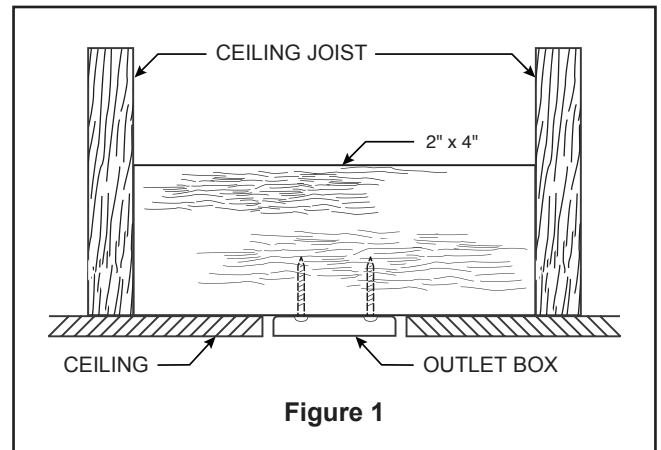
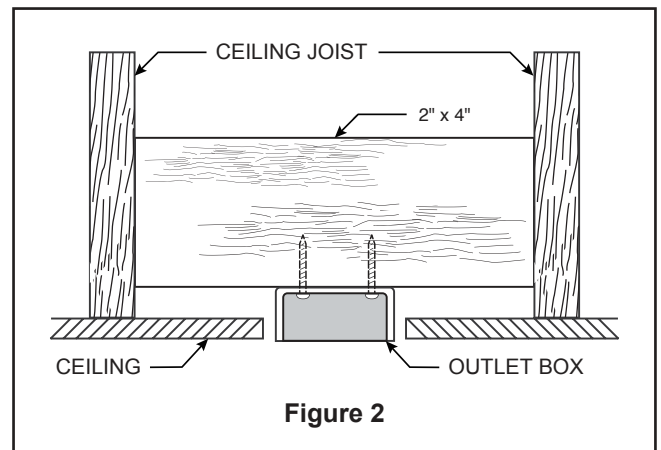
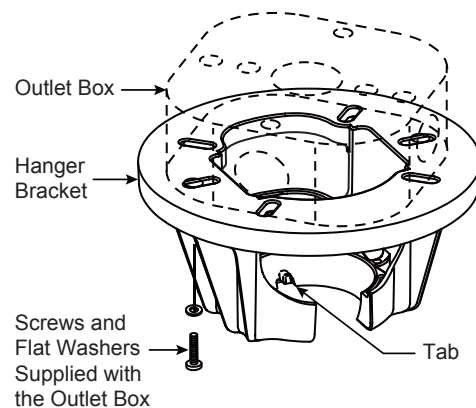
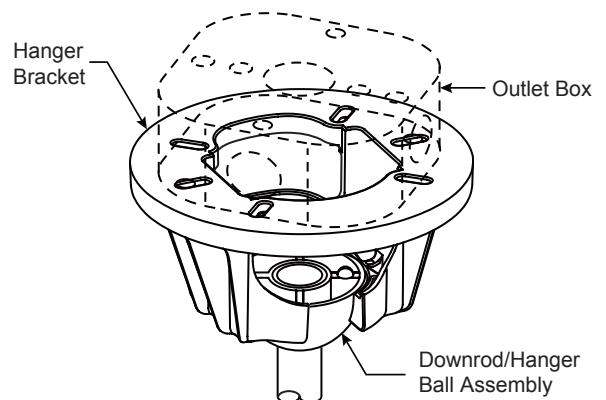

Figure 1
Figure 2
Figure 3
Figure 4
Your new ceiling fan will require a grounded electrical supply line of 120 volts AC, 60 HZ, 15 Amp Circuit. Electrical code requires use of a fan-rated outlet box to support the extra weight and motion associated with a ceiling fan. A fan-rated outlet box will be labeled as such and typically supports up to a 70lb ceiling fan. Fan-Rated Outlet Boxes vary in ratings and design. Ensure the ratings of your ceiling fan outlet box meet the requirements for the ceiling fan being installed. Figure 1, Figure 2 and Figure 3 depicts different structural configurations that may be used for mounting the outlet box.
Low profile outlet box (Figure 1)
Deep outlet box (Figure 2)
Deep outlet box with brace (Figure 3)
3. Loosen the two set screws and locking nuts in the downrod support of the motor assembly. Route the wires through the downrod. (Figure 3)
4. Slide downrod into the downrod support on top of the motor. Install the clevis pin by aligning the holes in the downrod support with holes in the downrod. Secure clevis pin with hairpin clip. Tighten the two set screws with nuts in the downrod support. Securely tighten the set screws with screwdriver then fully tighten the nuts by hex wrench. (Figure 4)
- 1. Securely attach the hanger bracket to the outlet box using the outlet box screws and washers supplied with the outlet box. (Figure 3)
NOTE: Outlet box screws pass through slotted holes of the hanger bracket. (Figure 3)
- 3. Carefully lift the fan and seat the downrod/hanger ball assembly onto the hanger bracket that was just attached to the outlet box. (Figure 4) Be sure the groove in the ball is lined up with tab on the hanger bracket. (Figure 3)
- 2. Slide the receiver into the hanger bracket before wiring as shown in figure 3.
4. Connect the 2 single pin connectors from the LED assembly to the 2 single pin connectors from the motor assembly. (Figure 4)
4. If you need to replace the batteries. Remove the battery cover from remote control by screwdriver and retain the screw for later. (Figure 4)